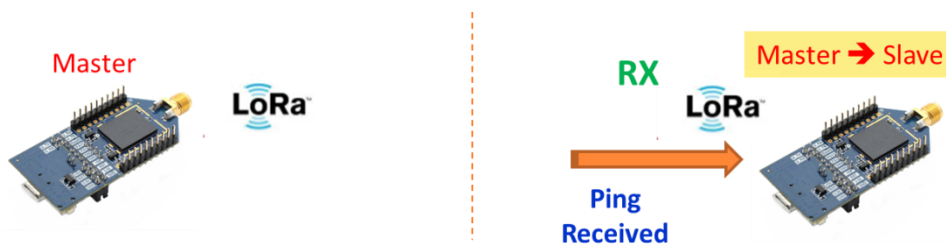

Figure 5.3
- b. When the other one gets the “Ping” signal, it would transfer itself to Slave mode from Master mode, and then transfer “Pong” signal from the slave point of view (Figure 5.3).